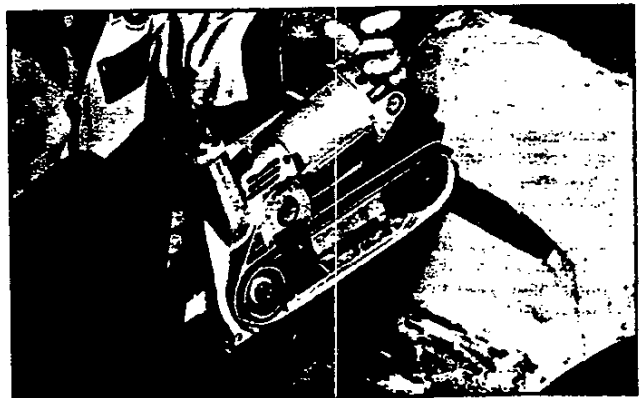

Fig. 52—Grinding "V" at Damaged Area
3. Grind or file the damaged area to form a "V" at the broken or cracked portion. Side of "V" should have a shallow pitch for maximum bonding surface. A belt sander with a vacuum attachment will minimize the dust problem, Figure 52.